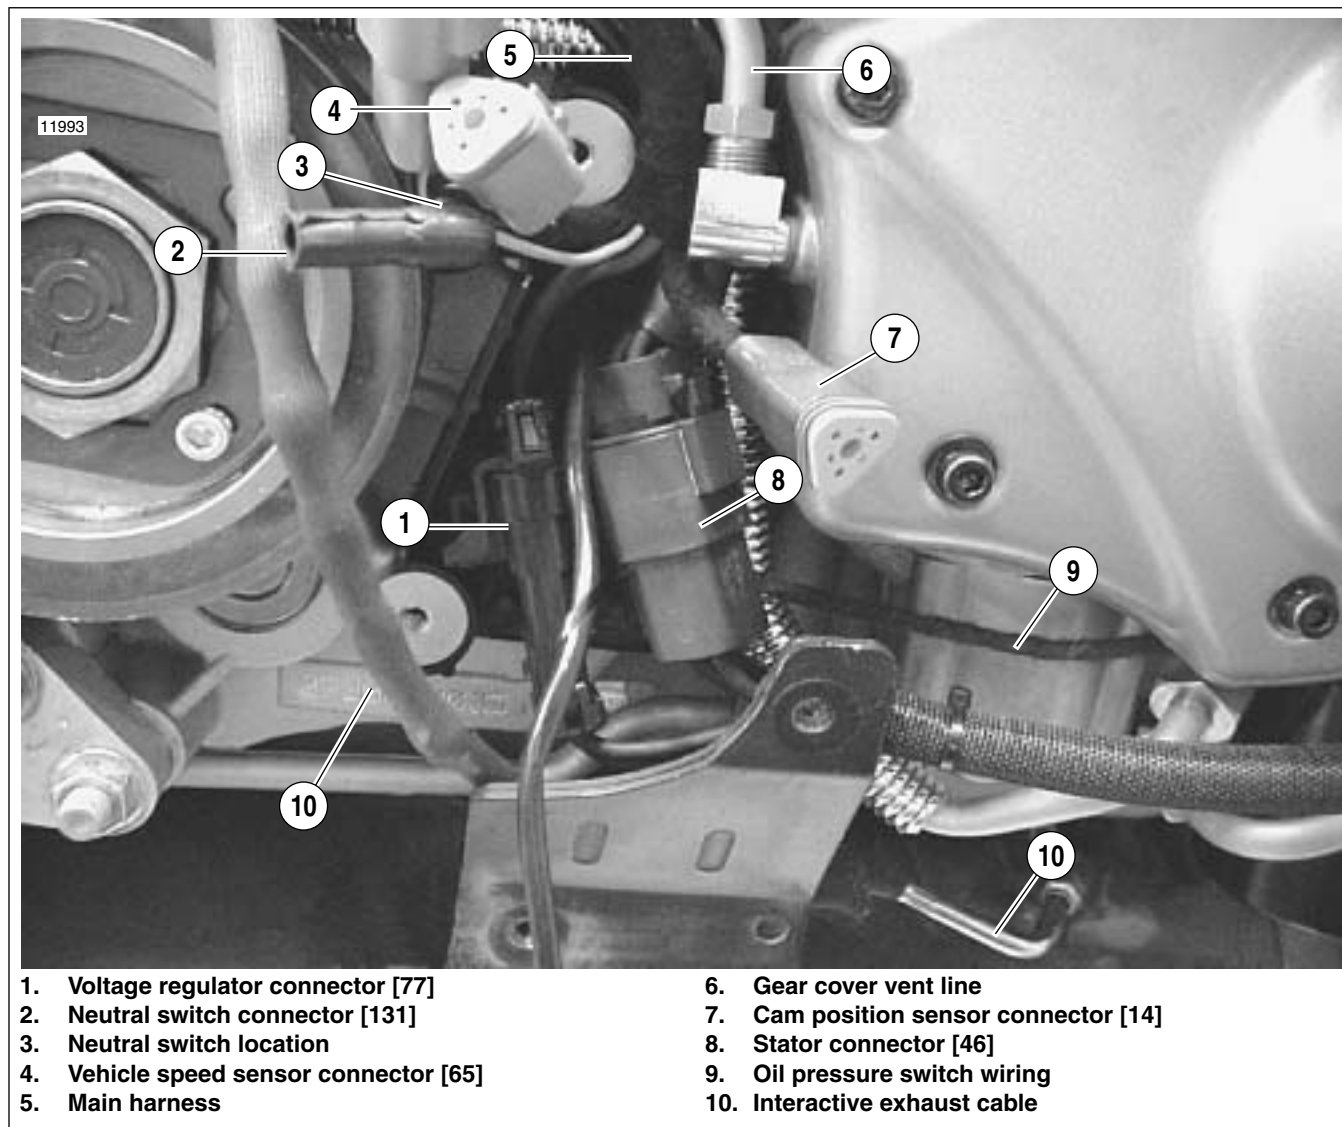

Figure 7-87. Sprocket Cover Wiring and Connections
2. See Figure 7-87. Disconnect appropriate connector(s).
2. See Figure 7-87. Route oil pressure switch wiring (9) from main harness (5), to oil pressure switch located on front of engine and connect to the oil pressure switch.
- See Figure 7-87. Make sure the stator wire bundle is behind the oil breather fitting (6) on the cam cover in front of the sprocket cover boss (4).
3. See Figure 7-87. Place the larger black and red wires in the harness up against the front of the upper sprocket cover boss behind the vent line fitting in the cam cover and connect the (2-pin) voltage regulator (1).